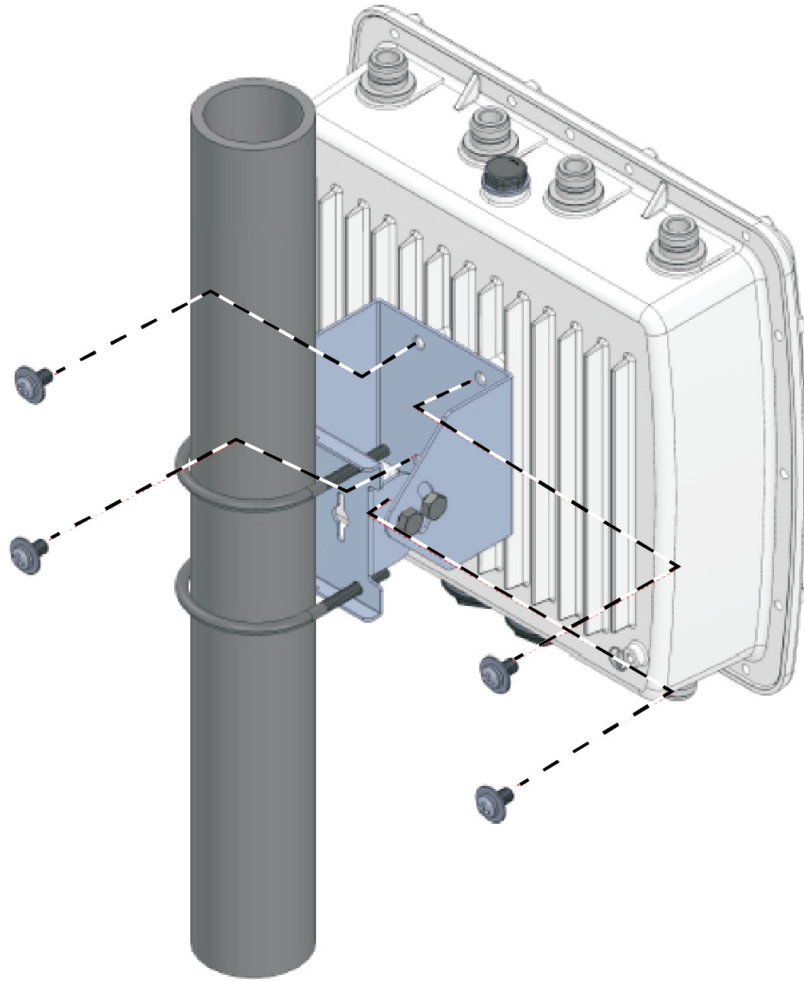

Figure 29. Attaching the Access Point to the Pole-Mount Brackets
3. Attach the access point to the pole-mount bracket with the screws using a Phillips-head screwdriver. See Figure 29 on page 61.